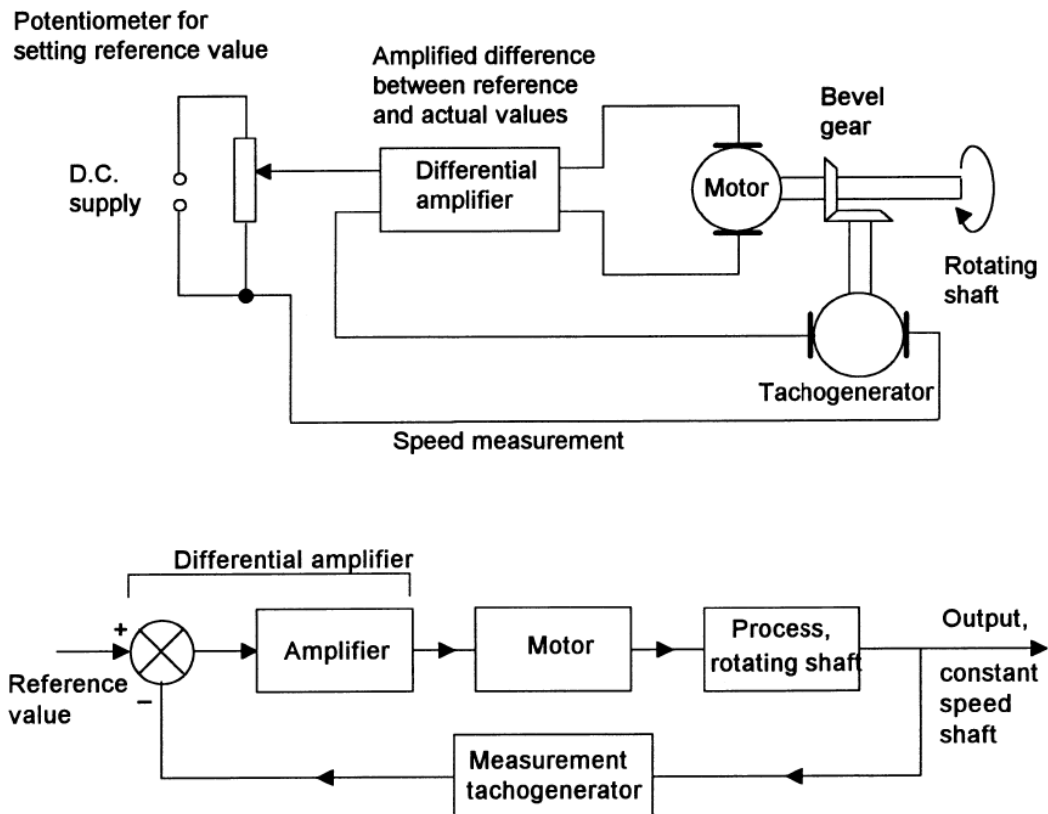

Figure 1[a]
1. [a] Figure 1[a] shows an example of a simple automatic control system used for the speed of rotation of a shaft. Identify the various elements of the closed loop system shown.